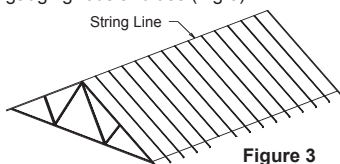

Figure 3
**Line** – Using a stringline along the apex (Fig 3), place each intermediate truss and fix it to the top plate at the position marked, spacing it with gauging rods and ties (Fig 6).